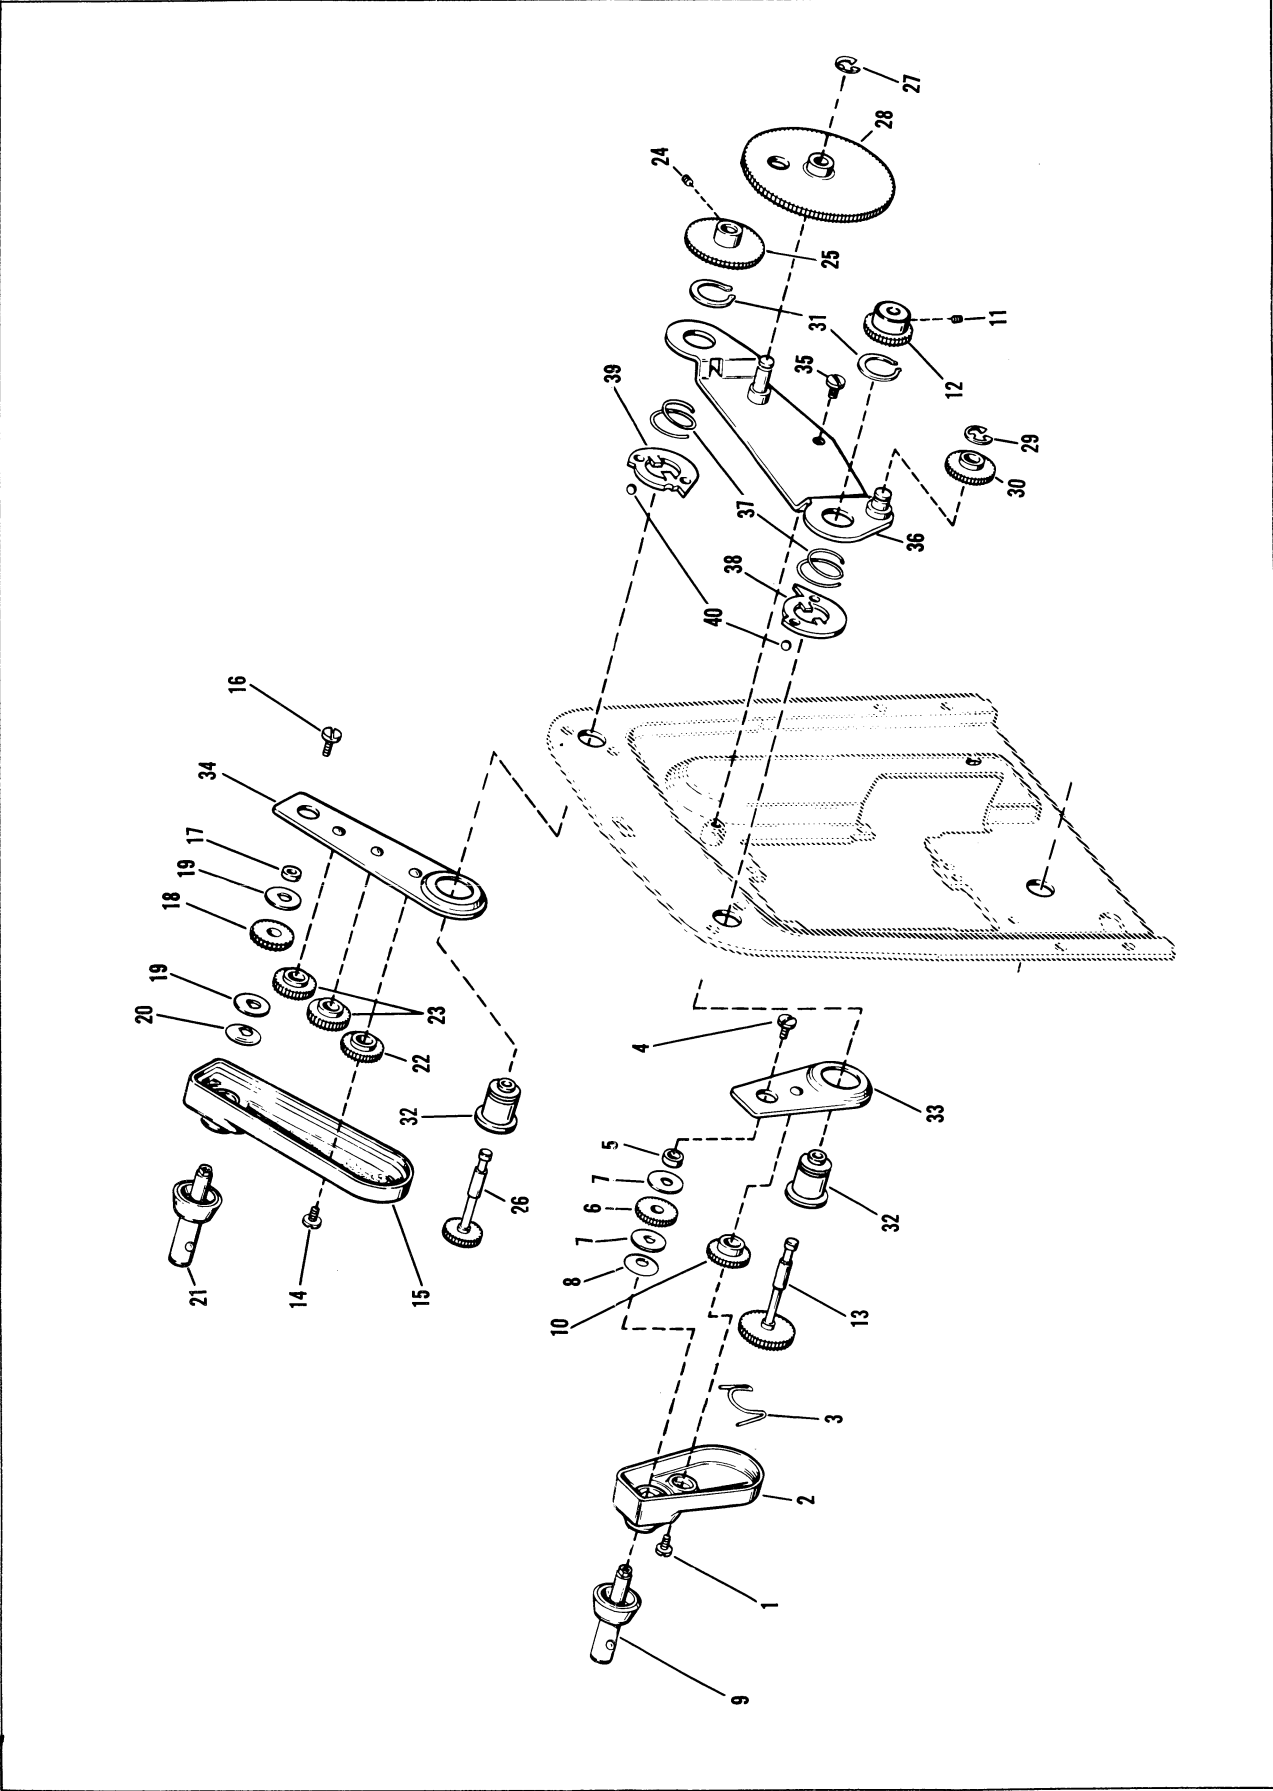

Figure 2. Reel Arms and Gears
b. If film should spill from the feed reel during operation, it may be necessary to tighten screw (4, Figure 2) slightly to apply additional tension.